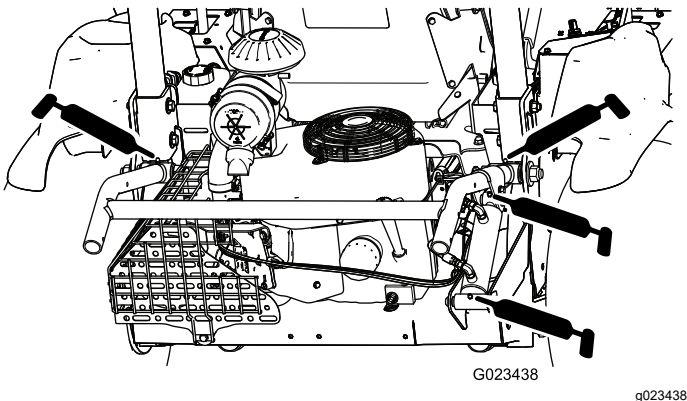

Figure 31
- Attachment lift (4)—Figure 31